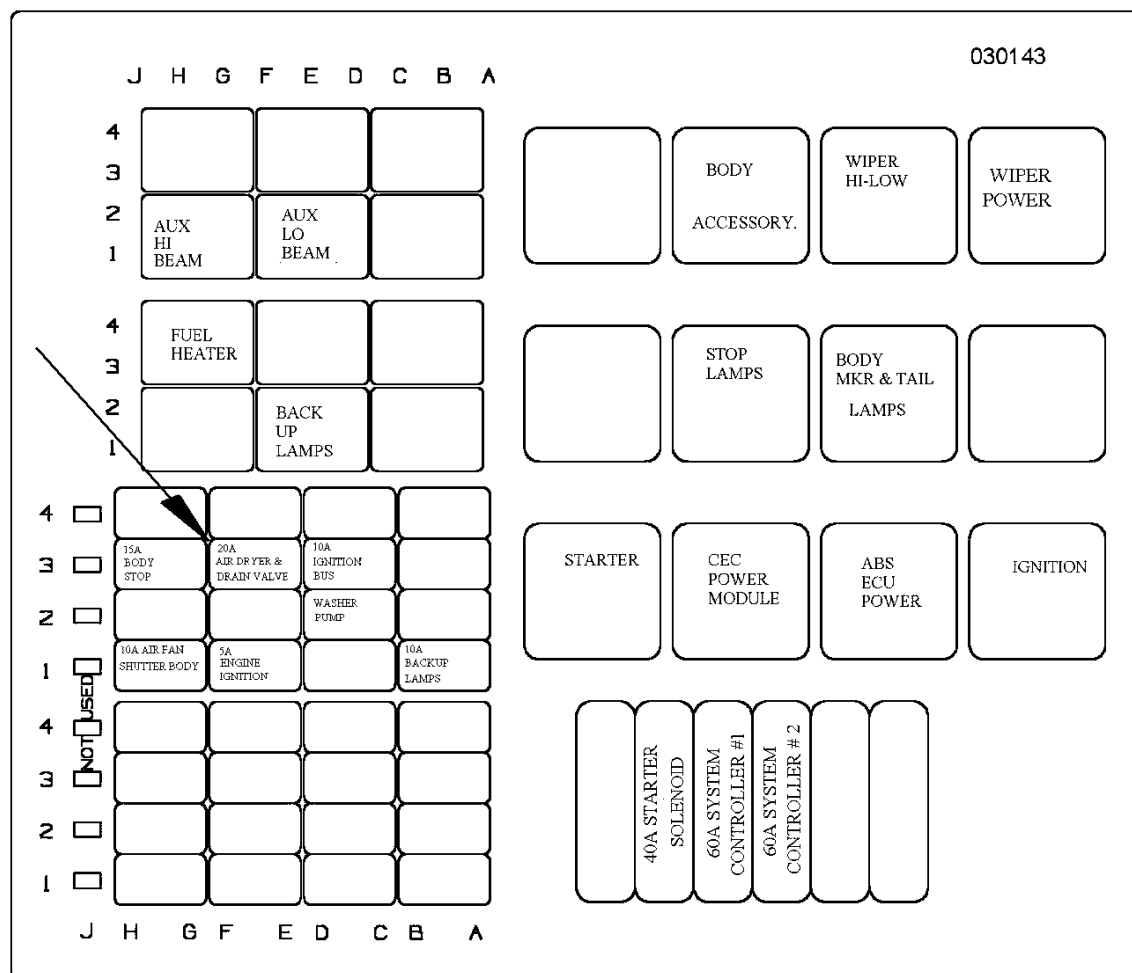

Figure 20 P.D.C. Fuse Block Fuse Index- Arrow Indicates "Air Dryer-20A" Label Location
22. Label the fuse index located on the underside of the fuse box cover "Air Dryer-20A" (Figure 20).